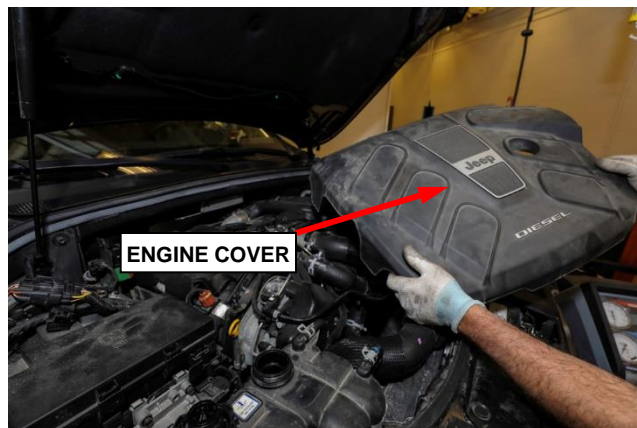

Figure 4 – Engine Cover
15. Remove the engine cover (Figure 4).